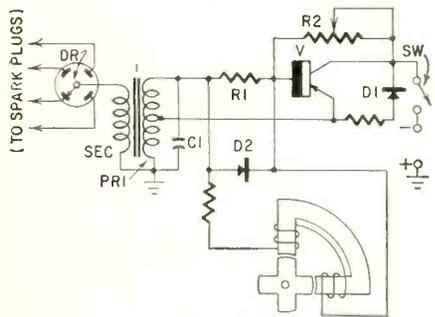
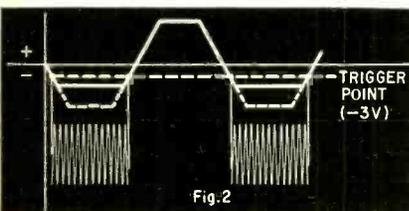

Fig.1 GEN
Fig.2
Fig. 1 shows a physical arrangement of the components. Fig. 2 is the corresponding diagram. When the tank is in tune, equal currents flow in L and C, so each bimetal spiral (BM) exerts the same force. Since the spirals are wound to